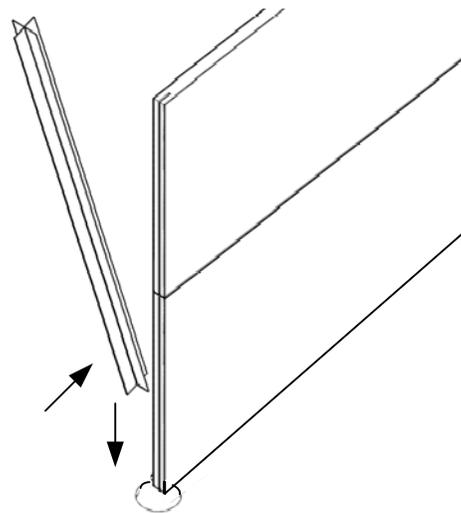

Figure 7
10. Repeat step number 5 for next succeeding Post, but now slide Post into posthole, Base Panel & Top Panel slots; Instead of Panels and Cap sliding onto Post, (figure 7):
- d. Continue with Panel assembly to Posts, as in Figure 7.